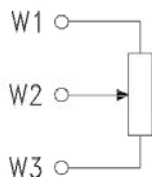

FIG. 1
MVB46P model is supplied with 1 KΩ aux. potentiometer. The potentiometer presents 0 ohm between W3 and W2 and 1000 ohm between W2 and W1, when the actuator is in upper position (see Fig. 1), and a 50 ohm variation for every mm of stroke, increasing between W2 and W3 and decreasing between W2 and W1.
- For MVB52/56 only, make sure that jumper SW2 is in A position (Fig. 1).